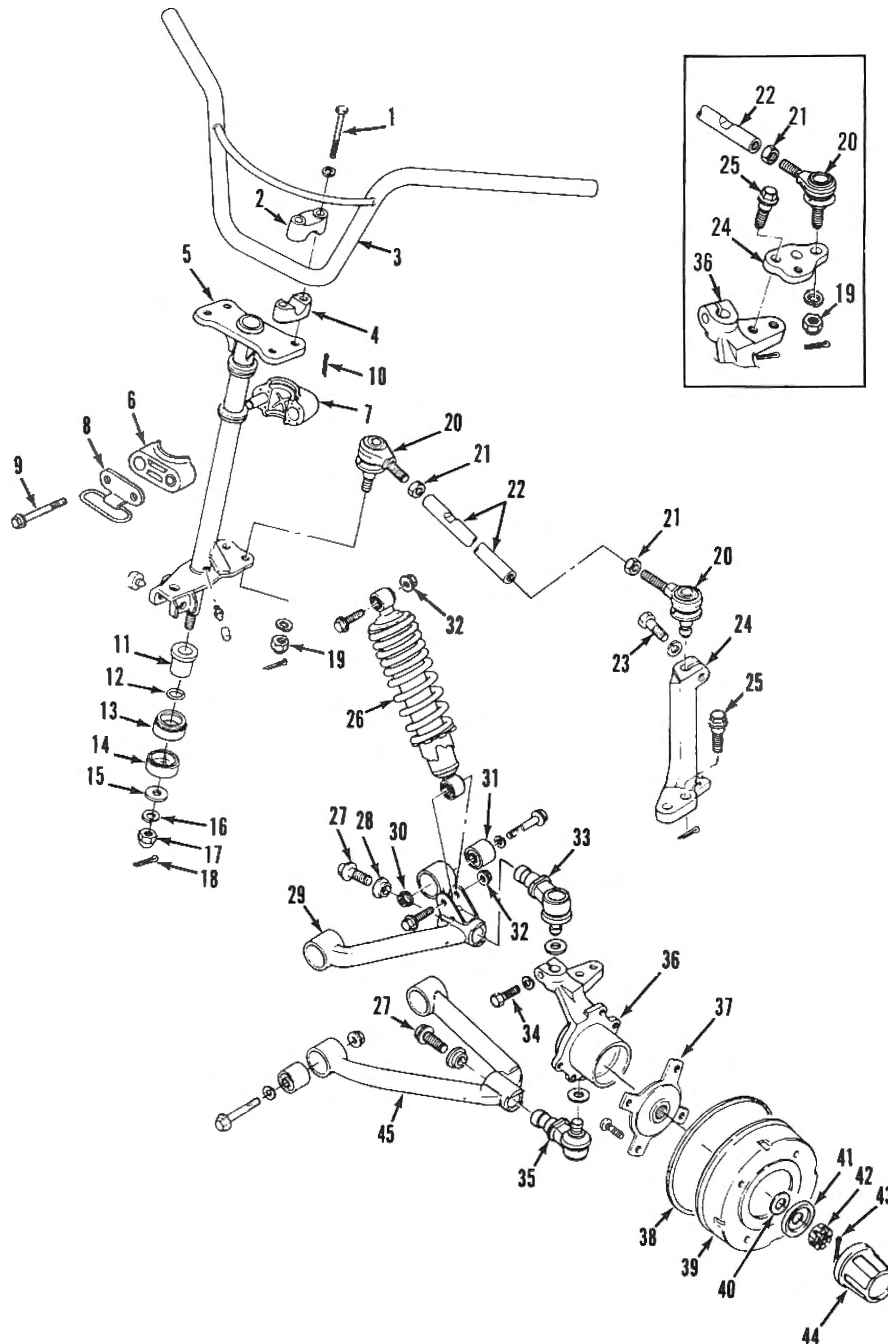

Fig. S13-20—Exploded view of steering and front suspension assembly. Components in box are used on LT-F250 models.
To adjust, loosen tie rod locknuts (21—Fig. S13-20) on both left and right tie rods. The tie rod ends and locknuts color coded yellow have left-hand threads. Rotate tie rod sleeves (22) in equal increments to maintain equal vehicle centerline to left and right tire centerline distances. Tighten tie rod locknuts (21) to 22-35 N·m (16.0-25.5 ft.-lbs.).
R&R AND OVERHAUL. Refer to Fig. S13-20 for an exploded view of steering assembly. To remove either knuckle (36), first remove wheel and components (37 through 44). Remove brake line from wheel cylinder and remove four cap screws securing backing plate to knuckle (36). Withdraw backing plate with brake components. Remove cotter pins and cap screws (25) retaining steering arm (24). Remove shock absorber (26) upper mounting bolt and remove upper control arm (29) and lower control arm (45) mounting bolts. Withdraw components as an assembly. Remainder of steering component disassembly is evident after inspection of unit and referral to Fig. S13-20.
A double wishbone-type front suspension and oil dampened shock absorbers are used. Shock absorbers have five load settings. Refer to Fig. S13-20 for exploded view of suspension components. The suspension components should be periodically inspected for excessive wear and damage. Removal and disassembly is evident after inspection of unit and referral to exploded view.